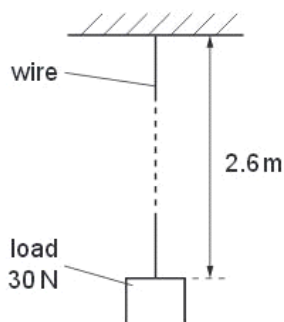

Fig. 4.1
- (b) One end of a metal wire of length 2.6 m and constant area of cross-section $3.8 \times 10^{-7} \text{ m}^2$ is attached to a fixed point, as shown in Fig. 4.1.